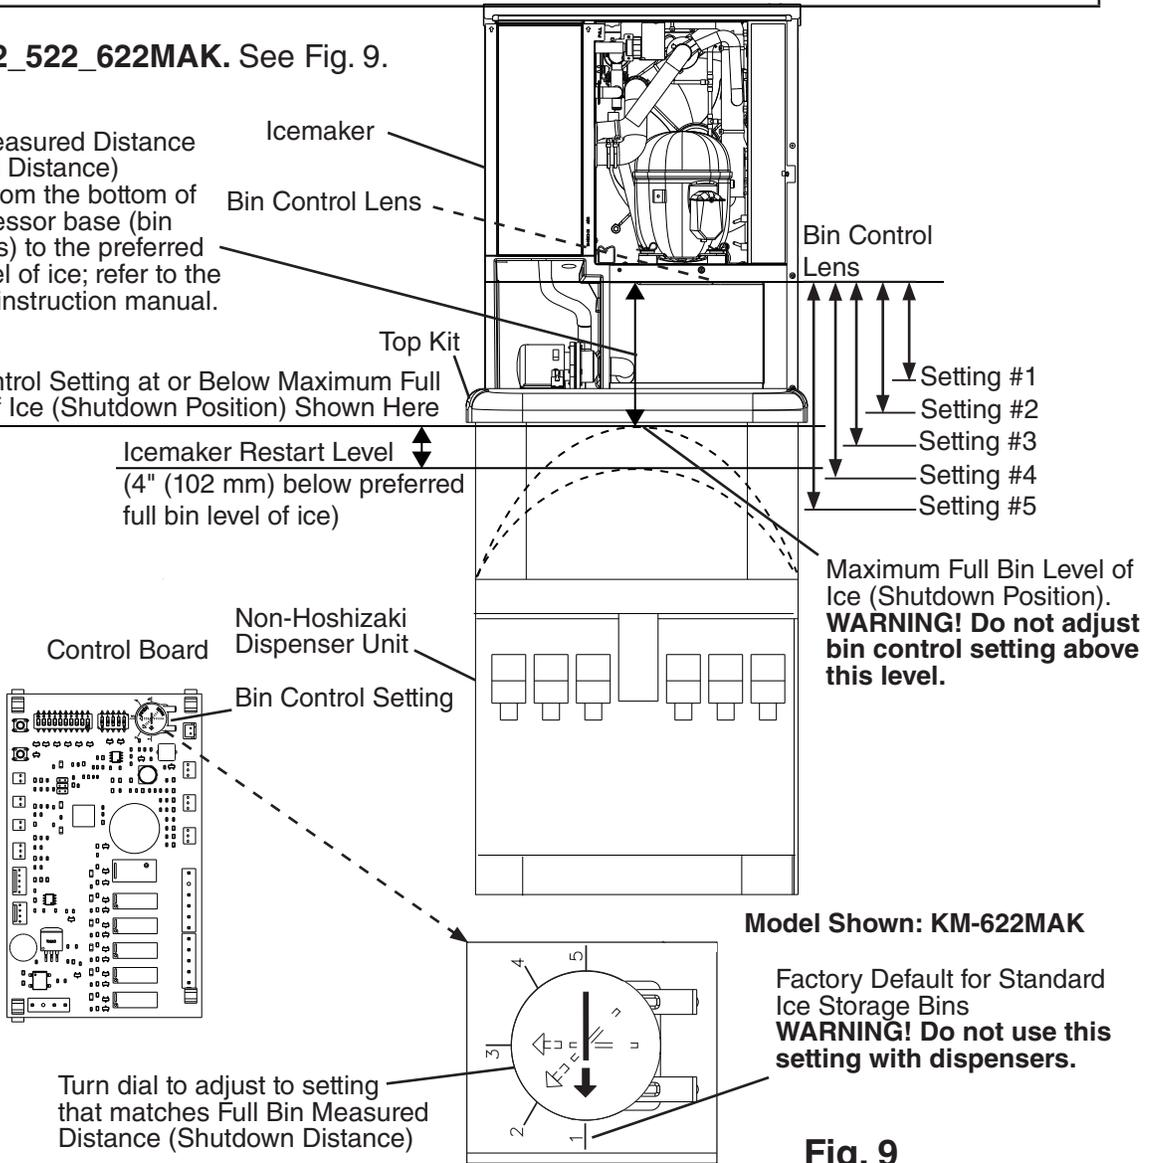

Fig. 9
For Non-Hoshizaki Dispenser Units. See Figs 9 and 10.
a) **KM-322_522_622MAK.** See Fig. 9.